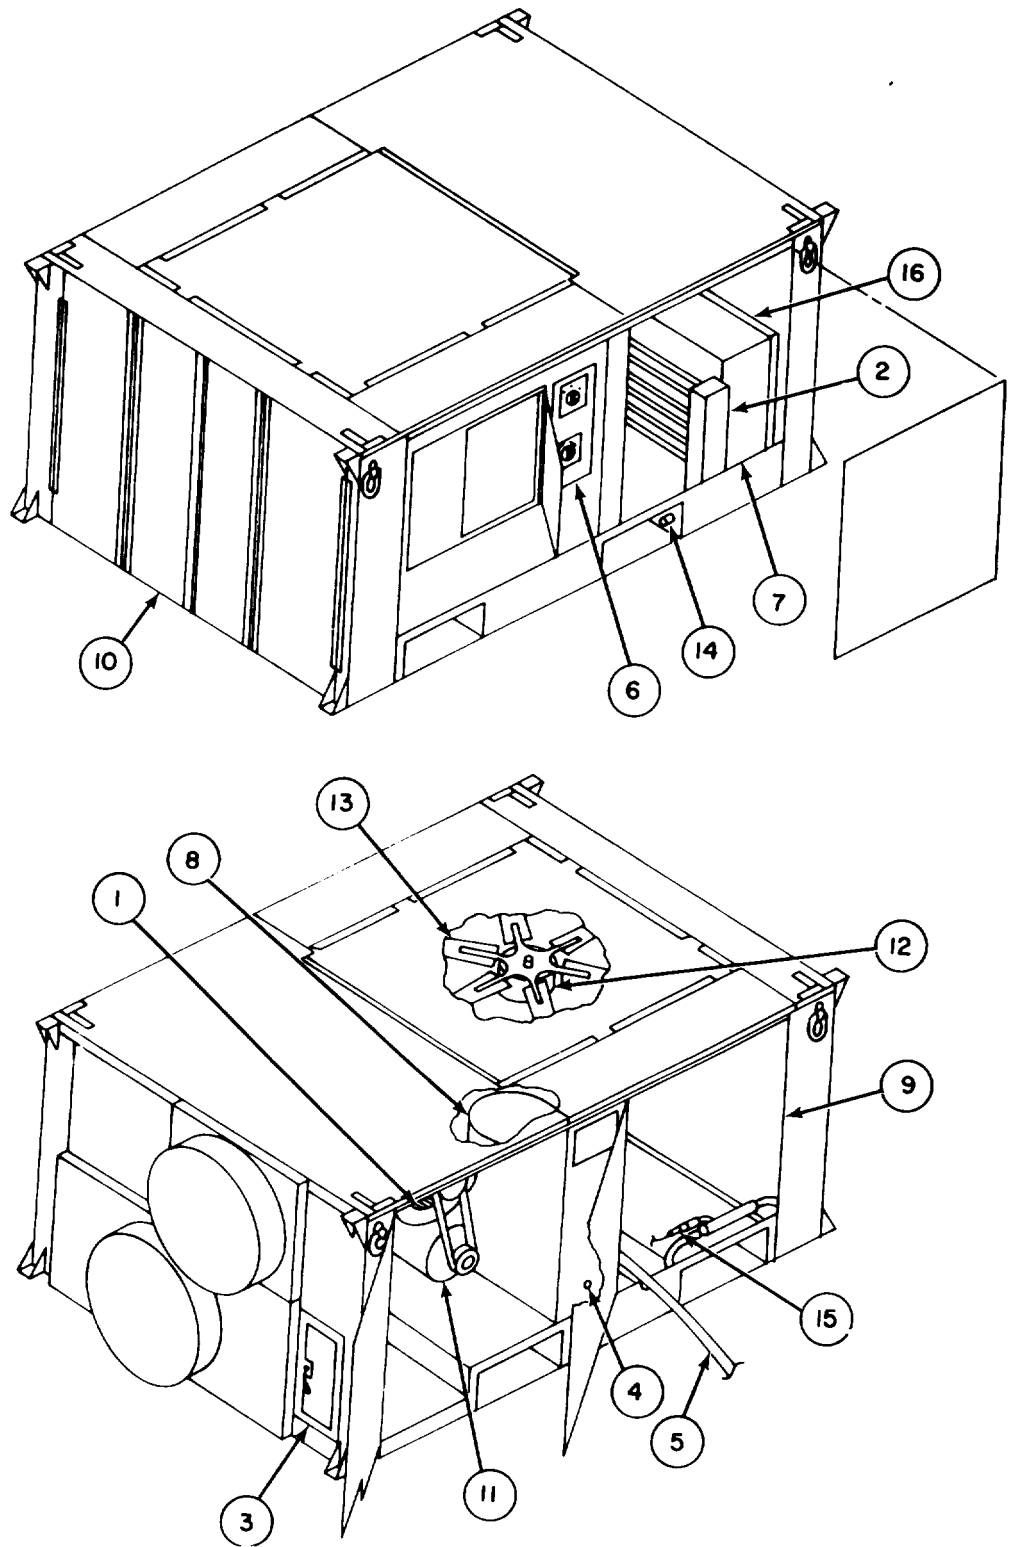
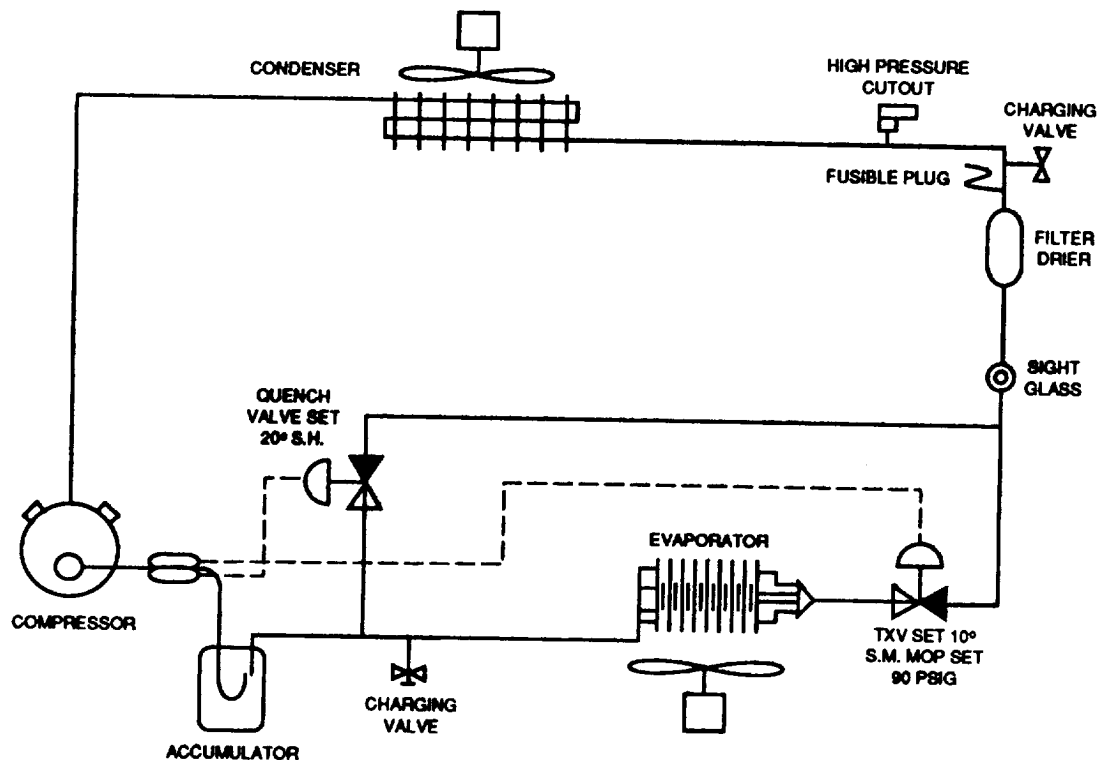

Figure 1-2. Location of Major Components
Figure 1-4. Refrigeration System Schematic Diagram
e. **HUMIDITY.** Heat is extracted from the air flowing across the evaporator coil. Cooling the air extracts excess moisture, lowering the relative humidity of the air delivered to the conditioned space. The extracted moisture collects on the evaporator coil as drops of water, drips down into a drain pan and empties out of the air conditioner through the drain line (figure 1-2).
f. REFRIGERATION SYSTEM. Figure 1-4 is a schematic flow diagram of the refrigeration system in the air Conditioner. Operation is as follows
(1) COMPRESSOR. Low-pressure, low temperature refrigerant vapor is drawn into the hermetically-sealed motor-compressor unit through the low pressure line from the accumulator. Refrigerant enters the compressor unit into the shell near the top, is circulated around and through the motor, and enters the compressor. From the compressor, the refrigerant under high pressure is delivered to the condenser. During compressor motor rotation, grooves in the crankshaft carry oil from the crankcase to bearing surfaces.
(2) CONDENSER. From the compressor, refrigerant gas enters the condenser at a pressure sufficient to raise its condensation temperature above that of the ambient air. Thus, as the airflow across the condenser coil extracts heat from it the refrigerant condenses to a liquid and settles to the bottom level of the condenser coil.
(3) LIQUID LINE COMPONENTS. From the condenser, liquid refrigerant passes through a filter-drier and a sight glass. A drying chemical in the filter-drier absorbs moisture, acids, and other liquid contaminants, and a filter captures and retains solid contaminants. The sight glass provides visible indication of the fluid state of the refrigerant. Refrigerant passing through the sight glass should be in the form of a clear liquid. Bubbles in the sight glass are an indication of a shortage of refrigerant in the system. Also in the liquid line are: a charging valve for adding liquid refrigerant a cutout that switches off the electrical circuit when the refrigerant pressure becomes excessive and a plug containing a fusible metal that melts when the liquid refrigerant becomes overheated, allowing refrigerant to escape.
(4) EXPANSION. After flowing through the filter-drier and sight glass, the liquid refrigerant enters the thermostatic expansion valve. The pressure difference across the valve produces refrigerant flow through the valve orifice into the lower-pressure space in the evaporator. The rate of flow through the thermostatic expansion valve (TXV) determines the degree of refrigerating action that takes place. Extending from the valve is a sensing element that is affixed to the compressor suction line. The sensed temperature affects the throttling action in the valve, allowing more refrigerant to flow through at high loads to maintain 10°F superheat, and throttling the flow at low loads to prevent refrigerant from entering the compressor in the liquid state.
(5) HEAT ABSORPTION. Reduced pressure inside the evaporator causes the refrigerant to vaporize. In changing into a vapor, the refrigerant absorbs heat initially from the evaporator coils and fins, and subsequently from the air blown across the evaporator. A venturi-type distributor at the evaporator inlet breaks up the refrigerant flow into six circuits for equal passage through the various parallel coils in the evaporator.
(6) ACCUMULATOR. Suction produced by the compressor draws refrigerant into the compressor intake. Refrigerant is compressible as a vapor but not as a liquid. Liquid refrigerant entering the compressor results in “slugging” and can cause mechanical damage. An accumulator between the evaporator and compressor collects any liquid refrigerant in the system at that point and in an inverted U-shaped outlet tube in the accumulator ensures that only vapor is drawn into the compressor.
(7) QUENCH VALVE. Refrigerant pumped through the compressor carries away the heat produced by current flow through the sealed-in motor windings. The temperature of the refrigerant gas depends upon the superheat and rate of refrigerant flow. A quench valve, with sensor at the compressor suctions, opens when the gas superheat temperature reaches 20 degrees above the normal boiling (vaporizing) temperature of the refrigerant. Liquid refrigerant from the condenser vaporizes in flowing through the quench valve, mixing cool gas with the hot gas to maintain the temperature of the refrigerant entering the compressor below 90° F.
(8) COMPRESSOR CRANKCASE HEATER. A tubular strip heater clamped around the external shell of the compressor warms the oil and evaporates the refrigerant prior to air conditioner startup. Turning on the compressor motor starter automatically disconnects the crankcase heater.
g. HEATING SYSTEM. The heating element grid is located in the evaporator compartment (figure 1-2). When the heating system is operating, return air, after passing through the evaporator coil, is heated and delivered to the discharge duct by the evaporator blower. Two relays on the control board energize three heating rods each.